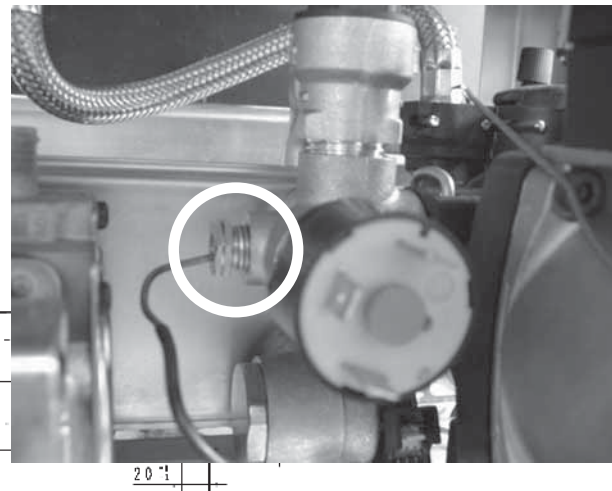

Figure 50
- ❑ Disconnect and remove capillary tube from the hydroblock. (figure 50)